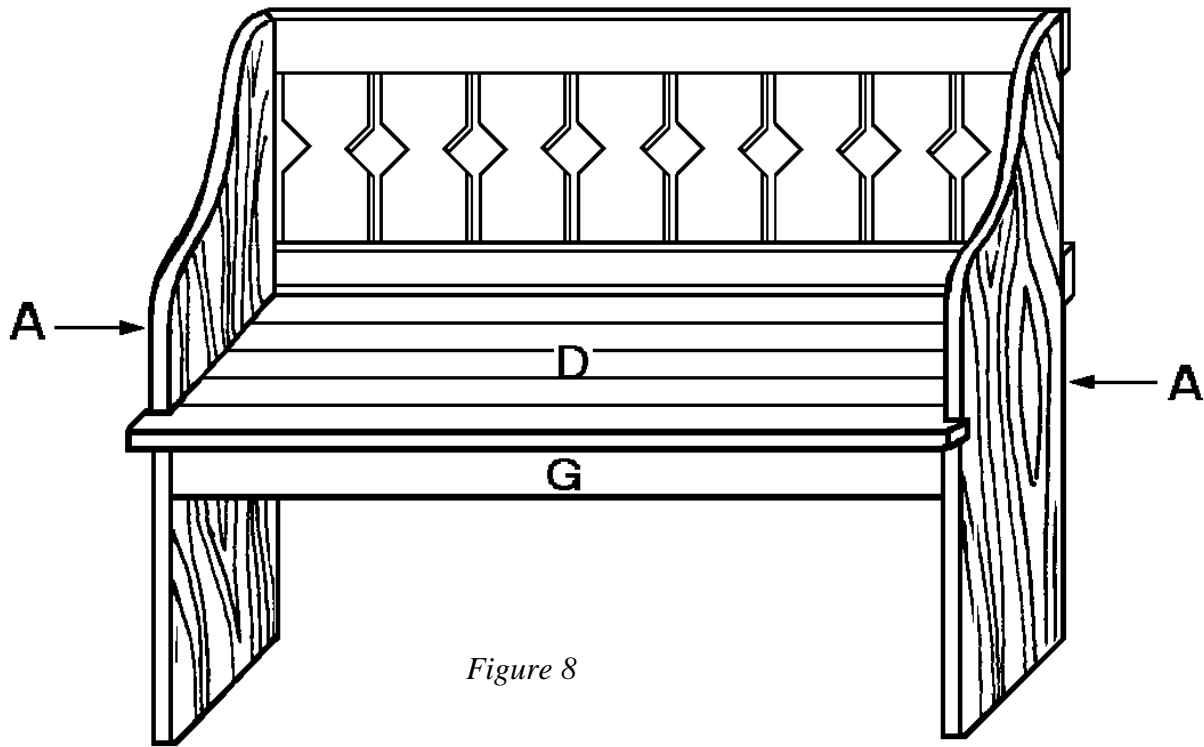

Figure 8
6. Cut one 45"-long front support (G) from 1 x 4 pine. Position it across the front of the bench and attach it to the exposed ends of the seat supports (E). Use glue and two 1 x 1-4"-long screws at each end of the front support (G).
- Place the seat (D) on top of the seat supports (E), center support (F), and front support (G). Note that the longer 46-1/2" edge fits across the front, and that it overlaps the sides (A), as shown in *Figure 8*. Glue and screw the seat in place using 1-1/4"-long screws. Screw through the seat (D) into the supports (E, F, and G), placing one screw about every 4 or 5 inches. Countersink all of the screws.
- Carefully fit the back assembly between the two sides (A). As shown in *Figure 8*, the back assembly should fit flush with the top of both the sides.
- Glue and screw the back assembly in place. Screw through each side (A) into the back assembly, using three or four 2-1/4"-long screws at both the top and bottom. Countersink the screws.